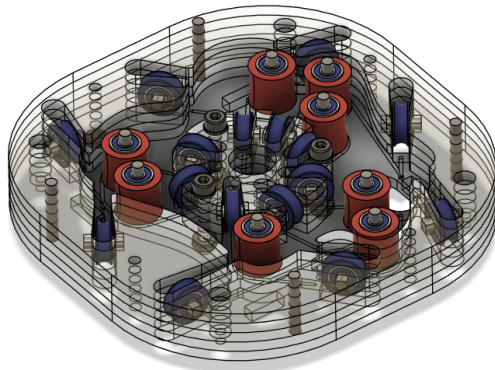

Figure 9: The middle-plate stack, bearings installed, fastened with the three shorter M3 screws.
11. Fasten the middle-plate stack together with the 3 shorter M3 screws. The assembly should now mirror Figure 9.